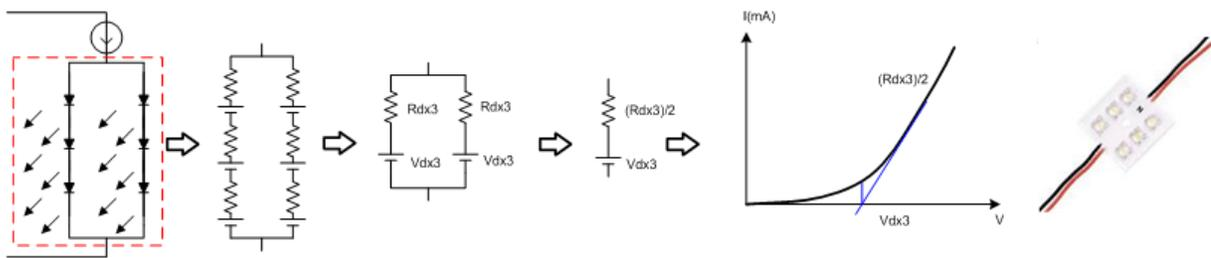

Fig 5-11 Several LED cascading and parallel connection and characteristic curve
1.4 In parallel connection stacks of LED: Several LED stacks in parallel connection is also Can get more output brightness, Vd also will increase as series Rd is according to the Cascade and parallel. Fig 5-11 is 2 stacks LED to parallel, are the LED's equivalent Circuit and exponential V-I characteristic curve.